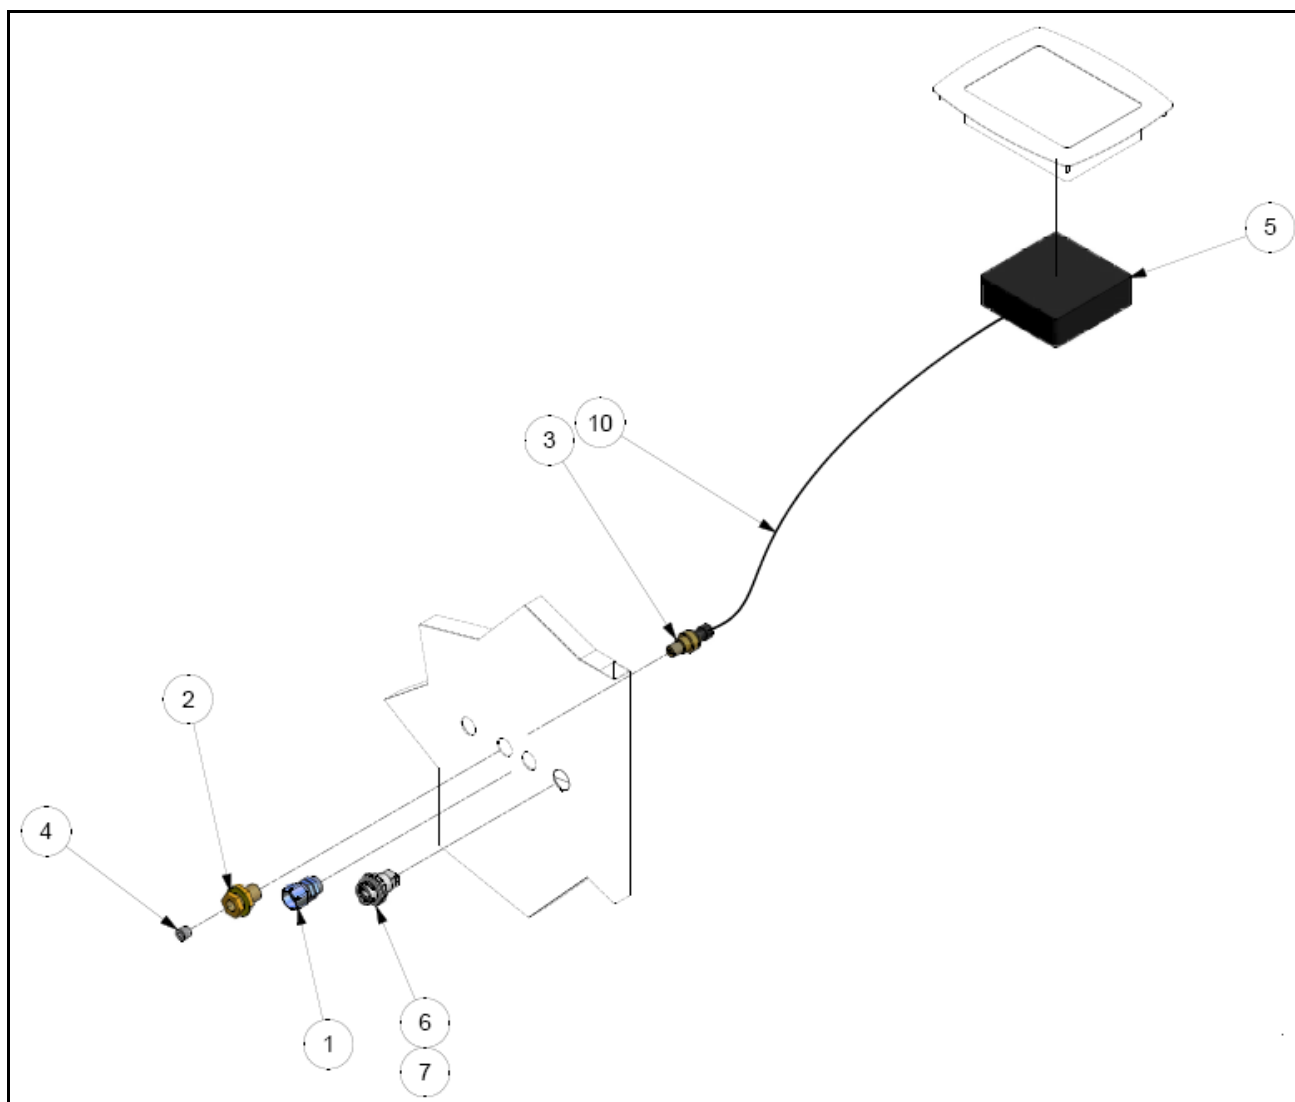

Figure 7 – Typical System Pressure Transducer Installation (Blower)
The transducer is installed into either the roof or the side of the control box or package. A typical compressor installation is shown in **Error! Reference source not found.** below. For a typical blower installation, see Figure 7. Refer to the Operators Manual of the machine being sequenced for the proper location. Item 2, in the figure below, is a weatherproof bulkhead (GDI Part No. 64EB368) in which the pressure transducer, item 3 (GDI Part No. VP1011577 for a compressor or VP1033786 for a blower) is installed. In addition, a ¼ inch pressure sample tube is connected from the plant air system receiver or manifold to the system pressure transducer in the control box.